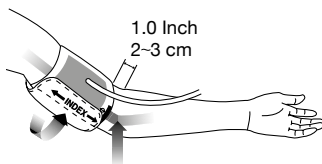

Fig. 9 Arteria principale (Brachiale)
- d. Lay the cuff on the arm as the Fig. 9. Make certain that the lower edge of the cuff lies approximately 2 to 3 cm above the elbow and the air tube lays on the inner side of the arm.